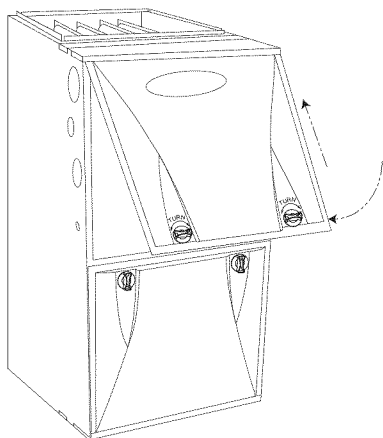

Fig. 13 - Furnace Door Replaced (Upflow Configuration)
- Replace main furnace door. See Fig. 13.
6. Replace main furnace door. See Fig. 13.